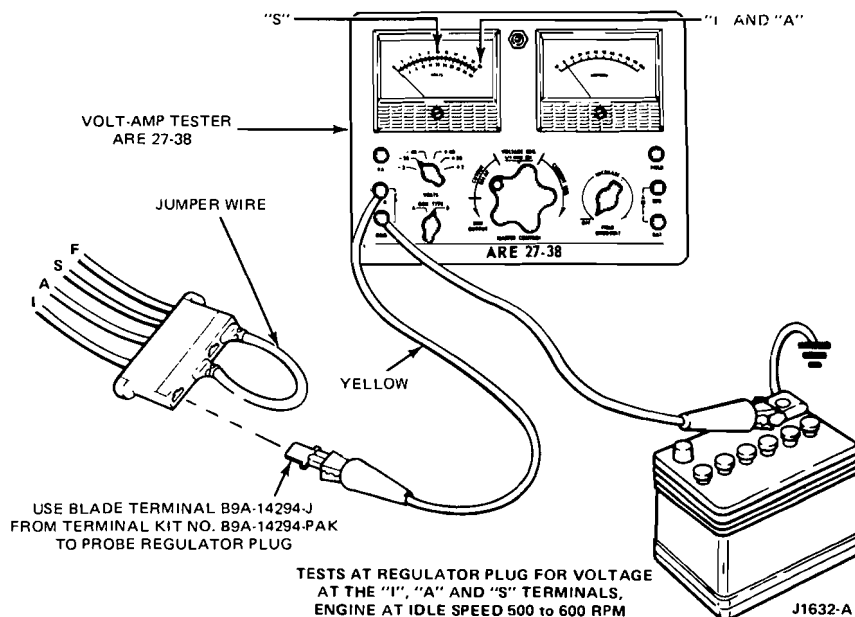

FIG. 3 Regulator Plug Voltage Tests
7. Before performing other tests, the field circuit (regulator plug to alternator) must be checked for a grounding condition. If the field circuit is grounded and the jumper wire used as a check at the regulator wiring plug from the A to F terminals (Fig. 3), excessive current will cause heat damage to the regulator wiring plug terminals and may burn the jumper wire (Fig. 3). Also, if the field circuit was grounded, the connector wire inside the regulator will be burned open and an under voltage condition will result.